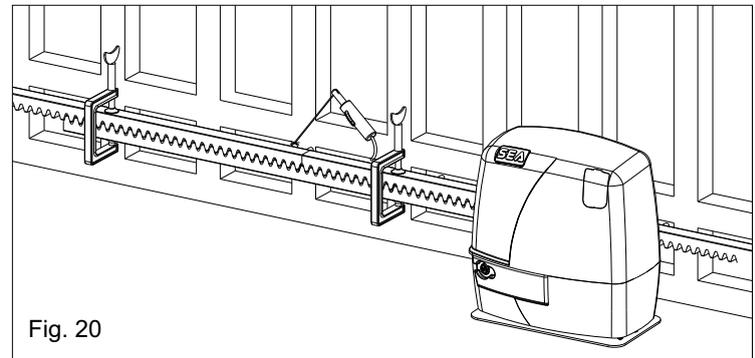

Fig. 20
- 7.4. Make sure that all the gear rack elements are perfectly aligned and placed correctly (teeth in phase). It's suggested to place two aligned elements in front of a third one as shown in Fig.20;